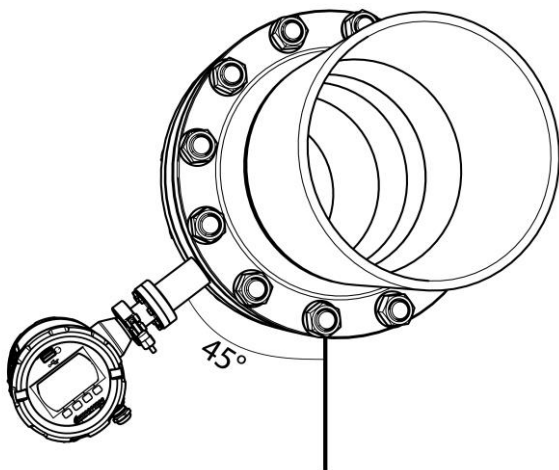

Figure 5-3: Horizontal pipe mounting example
- For the most reliable measurements, an installation sidewise in a 45° angle, as seen/measured from the bottom of the pipe is recommended (Figure 5-3);